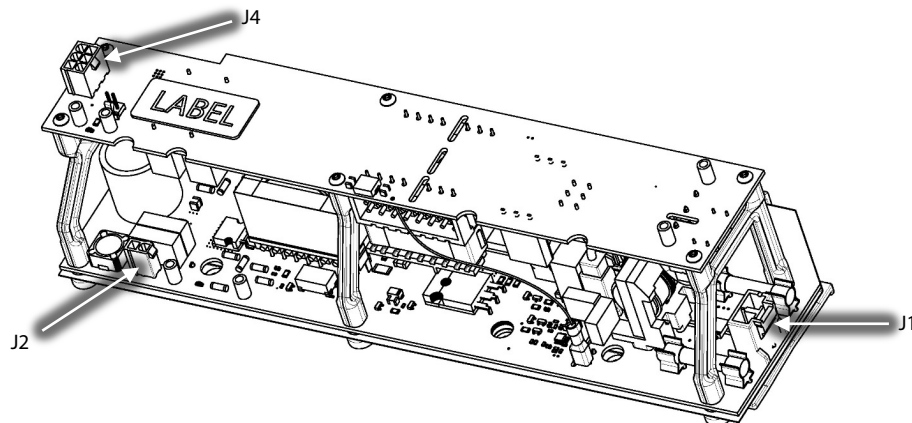

Figure 14 – DC-DC Converter Connector Locations
5. Remove the cable ties as necessary and adjust the DC-DC to Backplane Cable Harness so that you can connect to J4 (24VDC output) and J2 (250VDC Output) to the DC-DC Converter. Refer to Figure 14 (DC-DC Converter Connector Locations) for this and the following step.